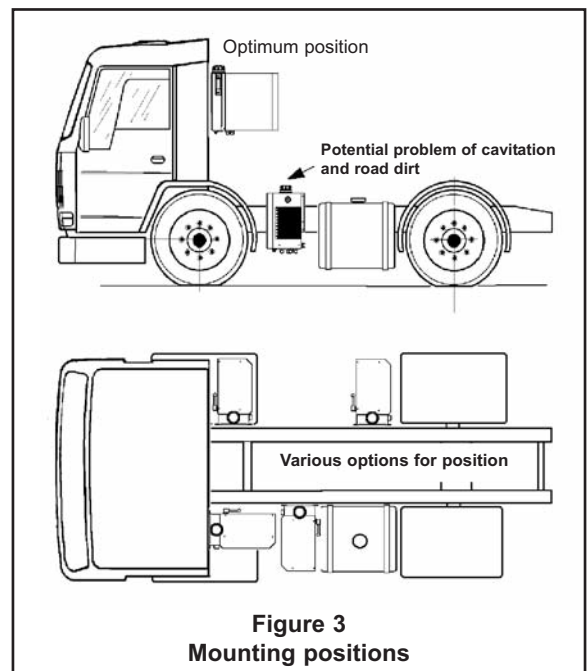

Figure 3
2. The HYDRIVE must be mounted using at least four of the eight mounting holes and the anti-vibration pads supplied (see Figures 3 and 4 below regarding mounting dimensions). The minimum distance between attachment points must be 7 inches (180 mm).
3. Mount the HYDRIVE in a position away from the wheels and road spray to protect the radiator from impact damage from road debris, stones, loose hoses, etc. (see Figure 3).